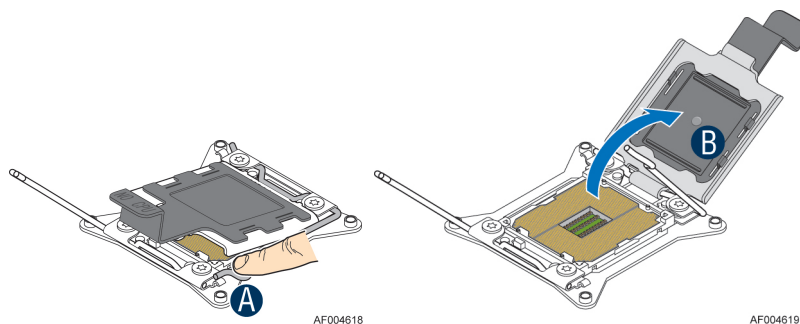

Figure 41. Installing Processor – Open the Load Plate
3. Open the load plate, see Figure 41